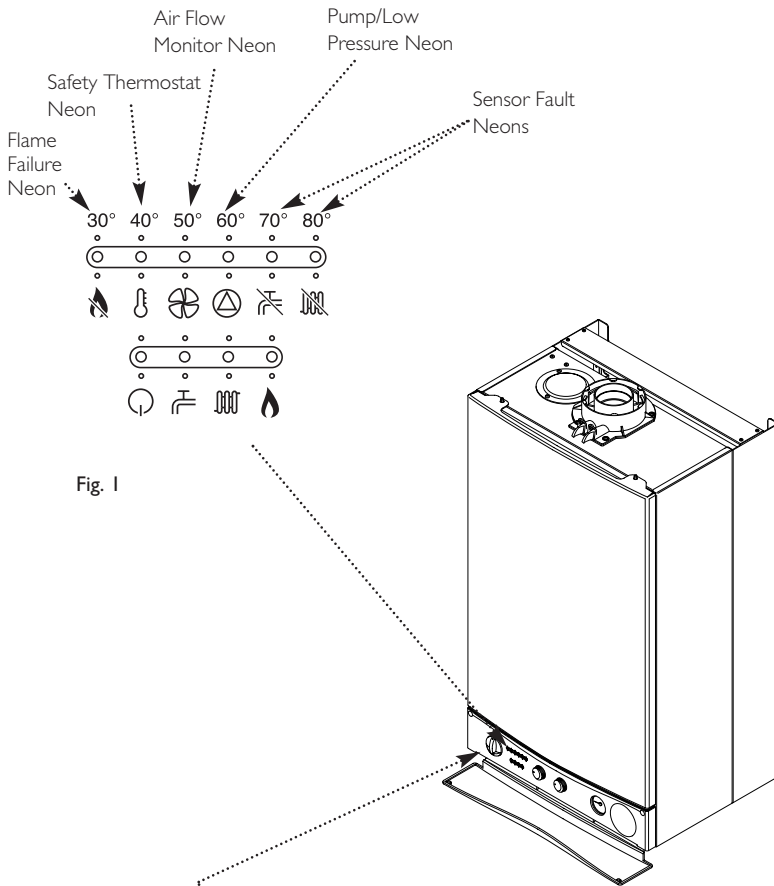

Fig. 1
2. If the () neon illuminates it indicates that the flue or flue terminal is blocked or obstructed in some way, or that there is an internal fault. If there is no external blockage of the flue terminal that can be easily removed contact your Installer or Service Engineer (Fig. 1).
1. The neon () will illuminate if the circulating pump is faulty or the system pressure drops below the minimum requirement (Fig. 1).
1. When either of the () or () neons is illuminated a fault on one of the temperature sensors is indicated (Fig. 1). Contact your Installer or Service Engineer.
1. Your Baxi Combi HE is fitted with an additional safety devices, which shut down the boiler in the event of the system, boiler or flue overheating. The safety thermostat neon () will light in this instance (Fig. 1).
1. The red flame failure neon () will illuminate in the event of the burner failing to light, when incomplete lighting of the burner occurs or blockage of the condensate drain (Fig. 1).